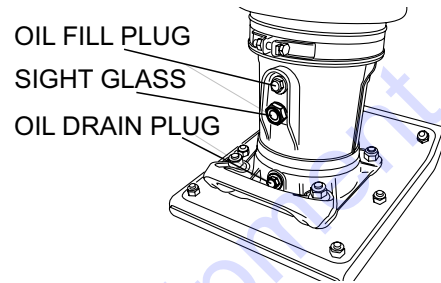

Figure 18. Oil Drain Plug
- Remove the oil drain plug on foot housing (Figure 18) and drain the oil. Refill with approximately 0.8 qt. (0.75 liter) of 10W-30 SE, SF or higher grade motor oil. Oil should be midway in sight glass. Break-in oil should be changed after first 50 hours.